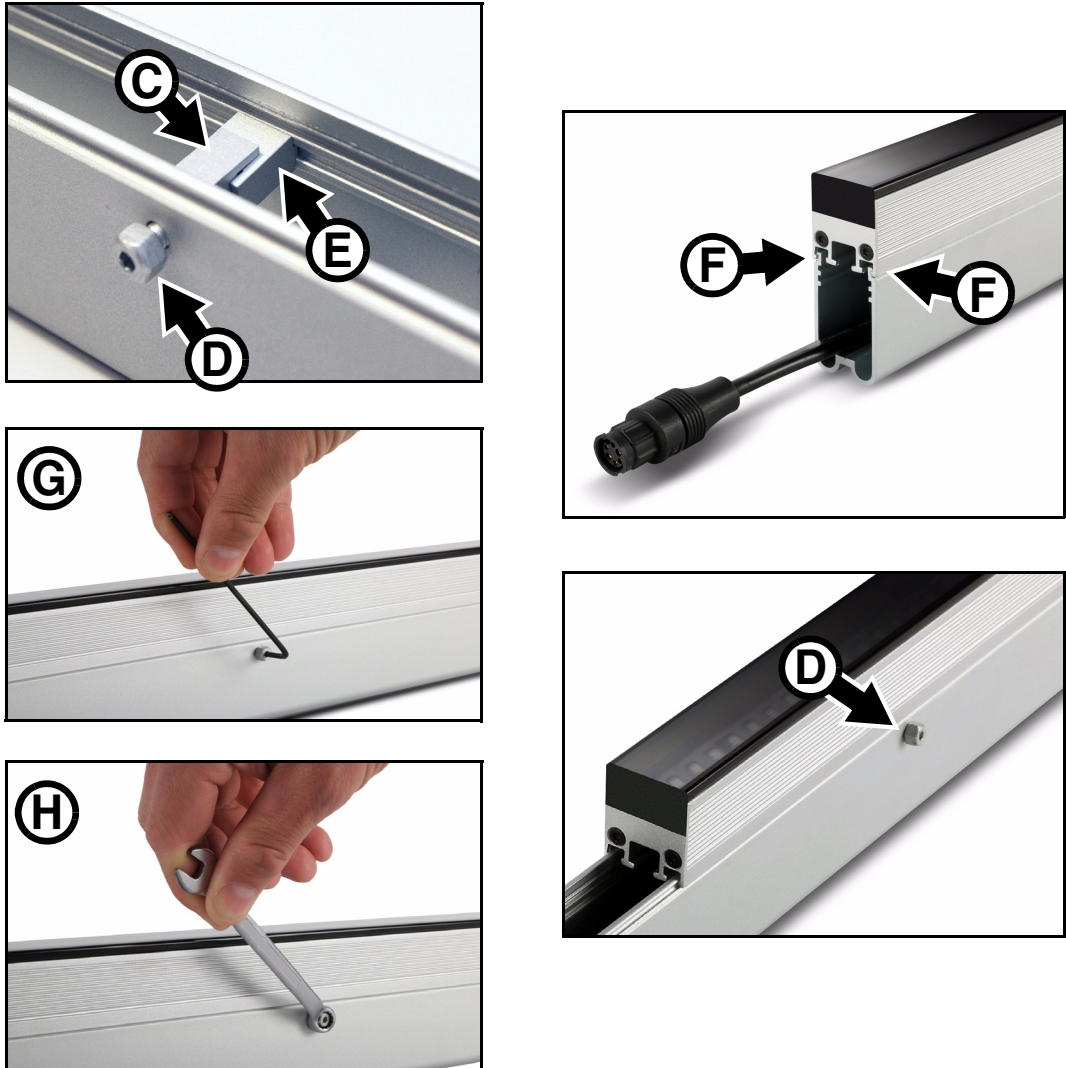

Figure 4: Mounting Profile Lock
Allow free airflow and 10 mm (0.4 in.) minimum clearance around the fixture. You must also allow clearance around mounting locks for access with a wrench or Allen key (see Figure 4 on page 15).
- See Figure 4. Prepare one mounting profile lock **C** per 310/320 mm fixture or minimum three mounting profile locks per 1270/1280 mm fixture. Apply a small quantity of Loctite 243 to the threads of the lock bolts **D**. Place each lock **C** in position so that it engages with the grooves in the profile as shown at **E** and tighten the bolt **D** finger-tight only.